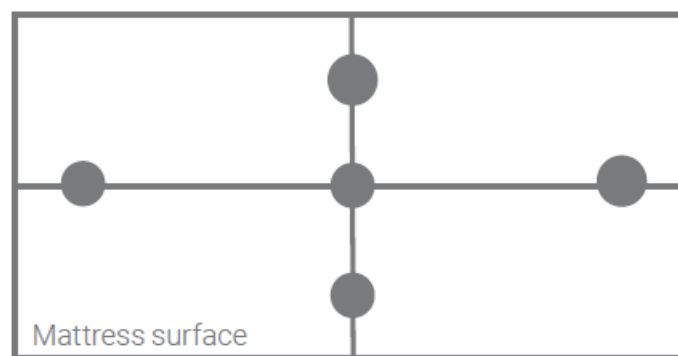

Figure 1: Mount Vernon Test points
- Standing at the side of the bed, link both hands to form a fist. Keep the elbows straight and lean forward, push your fists into the mattress at the points in Figure 1. If the bed base can be felt at any point, the mattress has 'bottomed out', and should be withdrawn from service immediately. Failing to observe this instruction may pose a significant risk of pressure damage to the user.